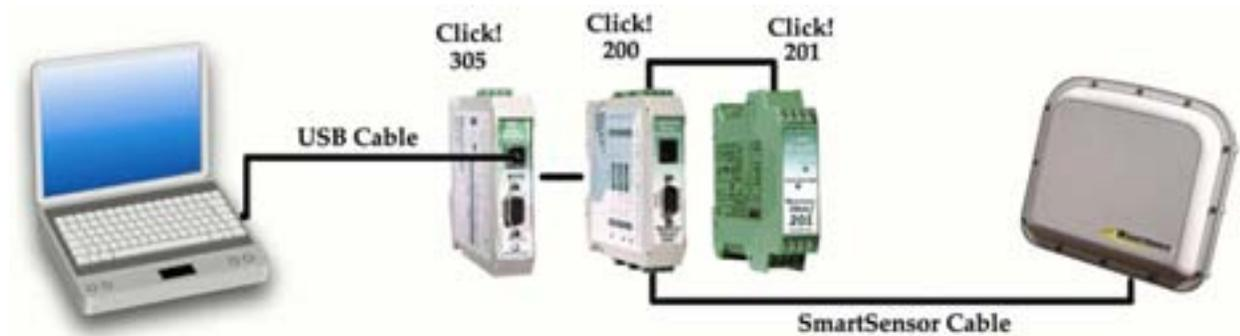

Figure 12 – USB cable connection
2. Connect RS-485 communication using a Universal Serial Bus (USB) cable connected from the USB port on your PC to the USB port on the front of the Click! 305 (see Figure 12).